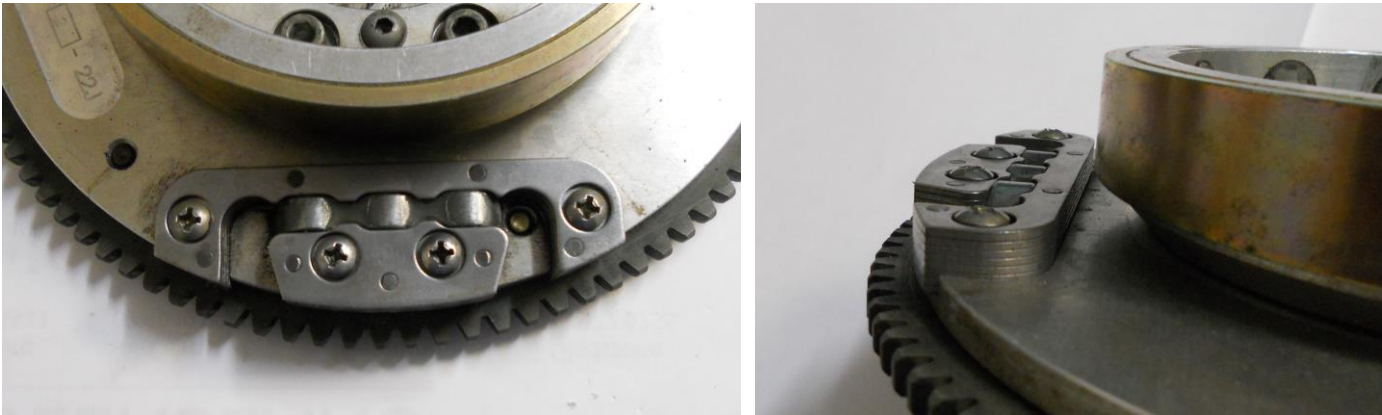

Figure 152 - Laminated Magnet retaining pole plates
- Laminated Pole Plates (shown Figure 152) are fitted with 5/8" 10-32 dome head screws